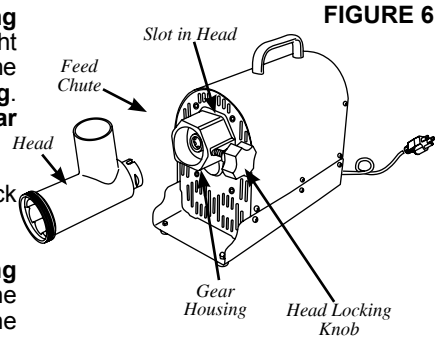

FIGURE 6
1. Insert the **Head** into the **Gear Housing** with the feed chute of the **Head** facing straight up. You will need to line up the slot in the **Head** with the **Pin** inside the **Gear Housing**. Be sure the **Head** is seated fully into the **Gear Housing** (Figure 6).